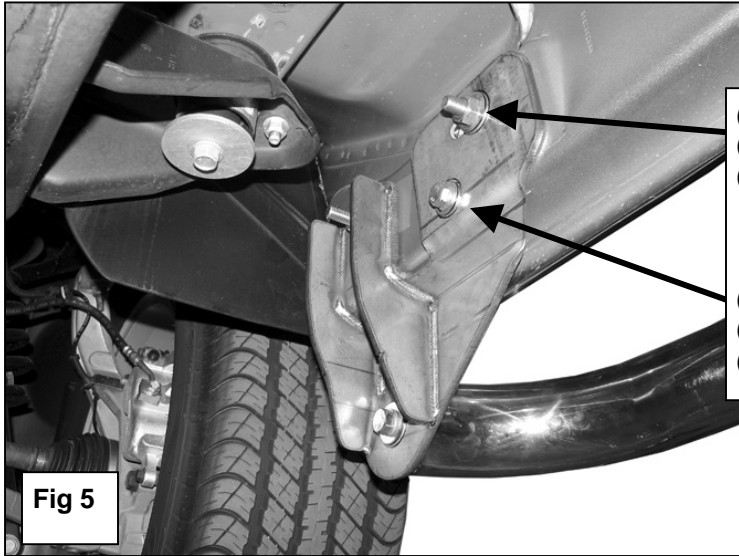

Fig 5
- Select the passenger side front Mounting Bracket. Position the Mounting Bracket onto the installed Bolt Plates. Secure it with (2) 12mm Flat Washers, (2) 12mm Lock Washers and (2) 12mm Hex Nuts, **(Figure 5)**. Do not tighten at this time. Rotate the Bolt and Nut plate until the Nut end lines up with the remaining hole in the Mounting Bracket and body. Thread (1) 10mm x 35mm Hex Bolt, (1) 10mm Flat Washer and (1) 10mm Lock Washer into the threaded nut. Snug but do not tighten hardware at this time.